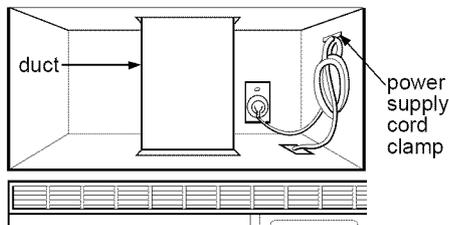

Figure 37
7. Roof venting installation: Install ductwork through the vent opening in the upper cabinet. Complete the venting system through the roof according to the method needed. See Figure 37. See "PREPARE THE VENTING SYSTEM," STEP 2 on the page 8. Use caulking to seal exterior roof opening around exhaust cap. See Figure 6 on page 8.
8. Use power supply cord clamp to bundle the power supply cord. Install power supply cord clamp, using screw as shown in Figure 37, to inside of the cabinet.